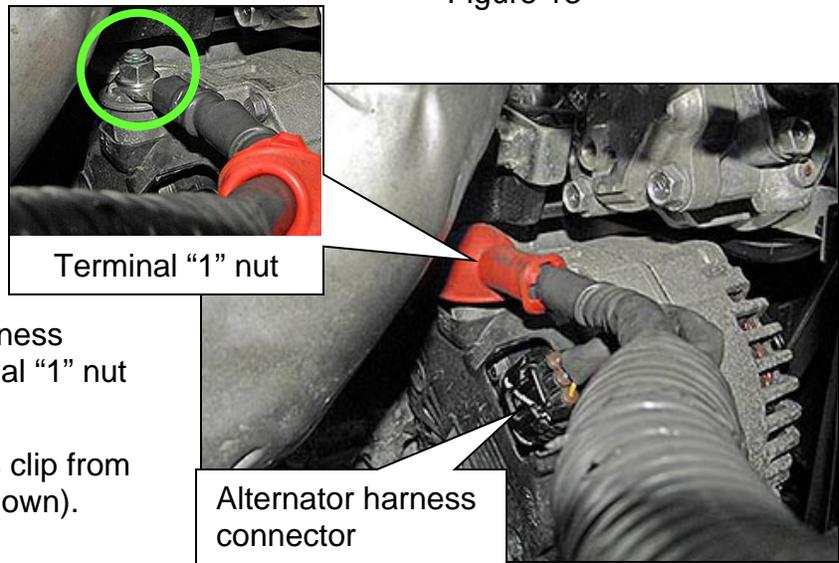

Figure 14
15. Disconnect the alternator harness connector and remove terminal "1" nut (Figure 14).